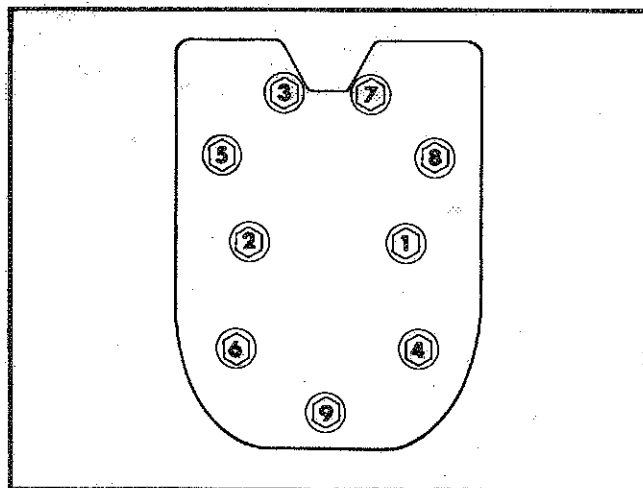

Figure 11-34. Cylinder Head Fastener Torque Sequence.
1. Install gaskets, cylinder heads, plain washers, and hex cap screws (lubricate threads with oil). Torque hex cap screws in the sequence shown in Figure 11-34 to **15/20 ft. lb.**